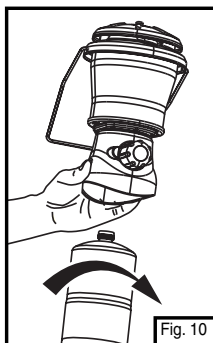

Fig. 10
- Screw propane cylinder into lantern. Take care not to cross-thread. Hand tighten only. (Fig. 10)